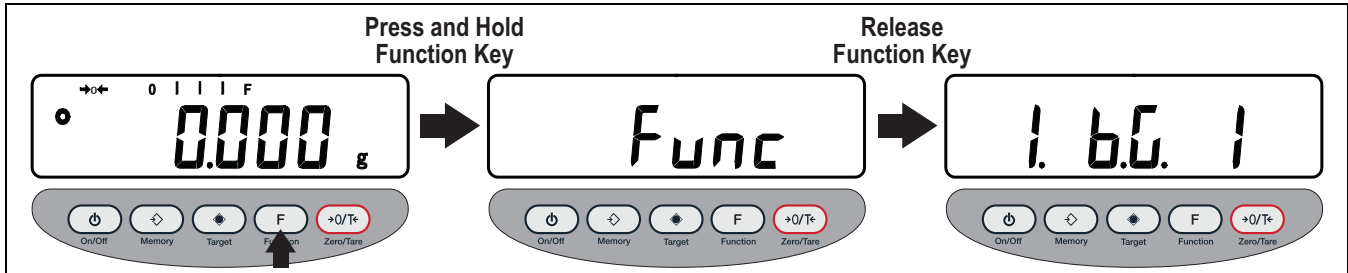

Figure 4-1. Function Menu Entry
1. Press and hold **F** until **Func** displays, then release the key. The function setup mode is activated and the first parameter, **1. 5. U.** displays (see Figure 4-1 on page 12).